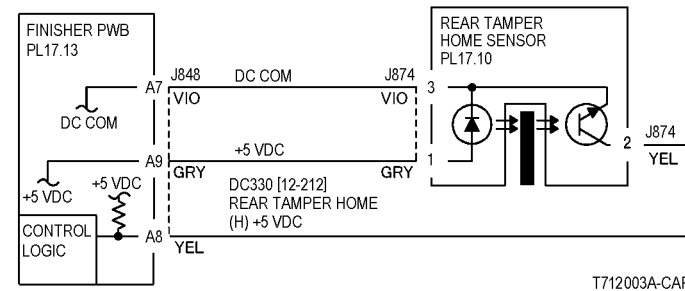

Figure 2 Rear Tamper Home Sensor CD
- Ensure that the connectors shown in the circuit diagrams (**Figure 2, Figure 3**) are securely connected and that the wires are not damaged.